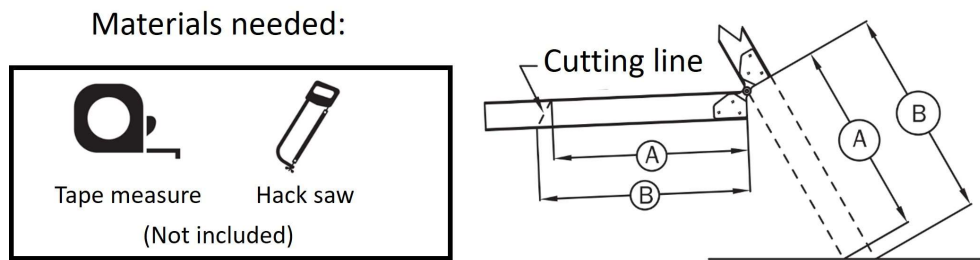

FIGURE 27 RAIL CUT
W. Installer #1: With a straight edge, measure distances from middle section to floor, for both A & B lengths (see **Figure 27**) and complete **Table 4**. Subtract 3/4" from each measurement and record the results in row titled "Rail cut length".
X. Installer #1: Transfer cut length dimensions from **Table 4** to the bottom section of the ladder right and left rails and draw a cutting line between the two points. Trim bottom section to length using a metal cutting saw (See **Figure 27**). Then rotate bottom section back in line with top sections and press down on the middle section to ensure that the spreader bars are fully extended.